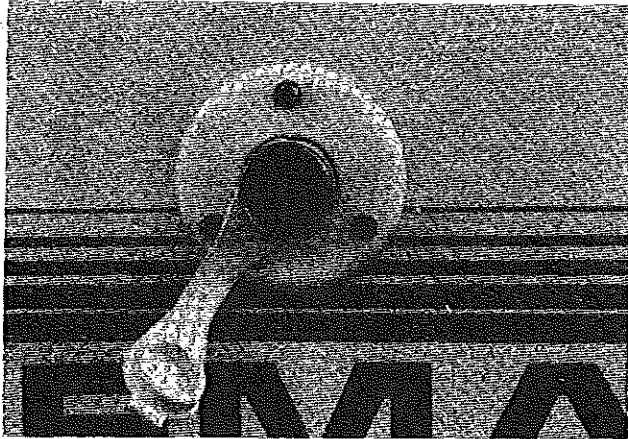

FIGURE 35
40. When the campsite provides a pressurized water system: Remove the protective cap from the external pressure water connector. See Figure 35. Attach a non-toxic garden hose (not furnished) between the external trailer connection and the campsite-furnished faucet.